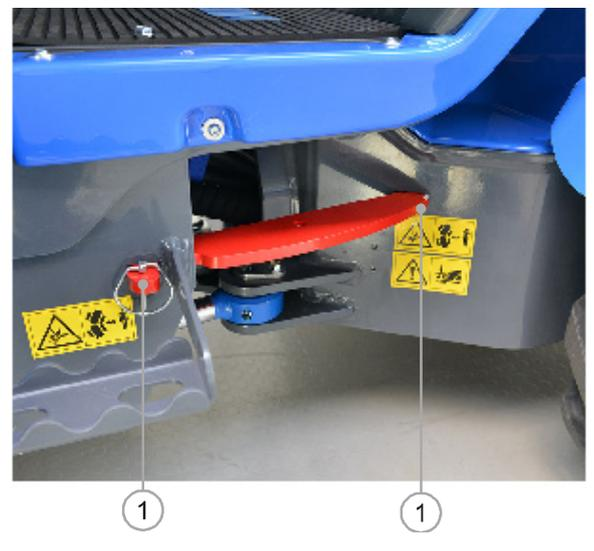

FIG. 22
- 4) Insert the bracket (FIG. 22 - Ref. 1) into the two slits placed on the left side of the machine near the joint of the central steering and secure it by the appropriate plug.